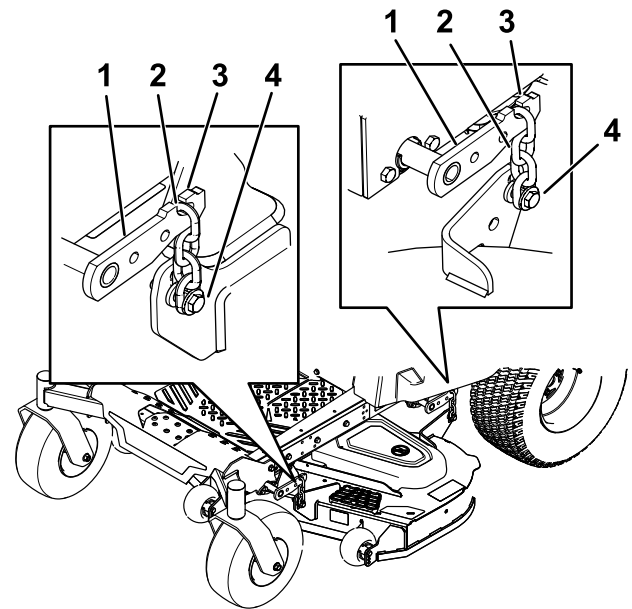

Figure 65
6. Ensure that there is tension on all 4 chains (Figure 65).
7. Tighten the 4 adjustment bolts (Figure 65).
5. Loosen the adjustment bolts on all 4 corners so that the deck is sitting securely on all 4 blocks (Figure 65).